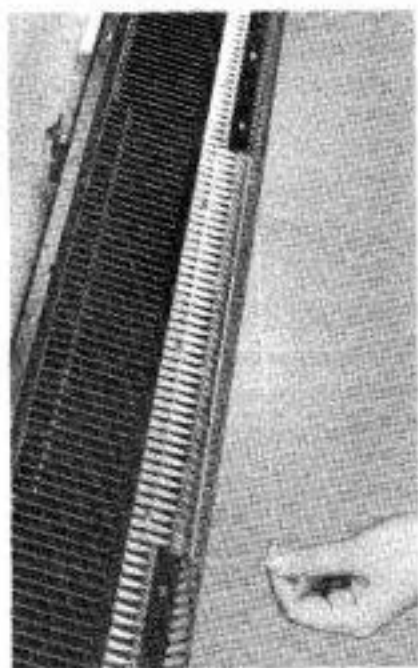

Fig.32
- (e) Still holding both ends of the divider thread together and pulling tightly downwards, bring forward to position (E) two or three working needles at both ends over the Divider thread. (Figs. 32 & 33)